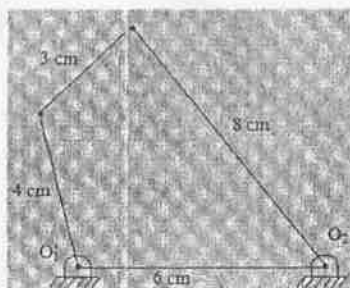

Figure 1
2. For the four-bar mechanism shown in Figure 1, check whether it satisfies the Gruebler's criteria or not.